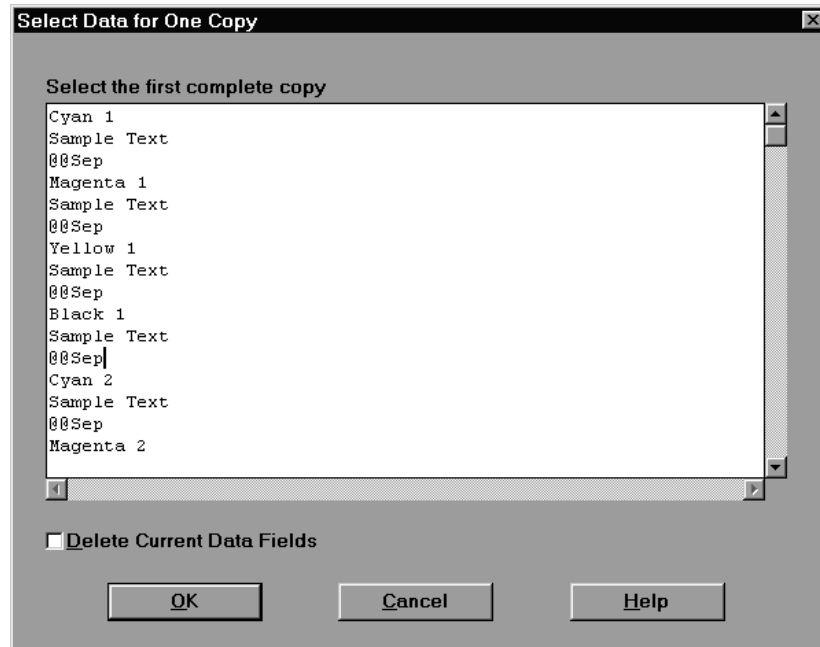

Figure 12. Select Data for One Copy Dialog
- a. Select all the data that you want to include in one copy of the job, including the delimiters. In the sample file in Figure 12 on page 22, you would highlight from Cyan 1 up to, but not including, Cyan 2.